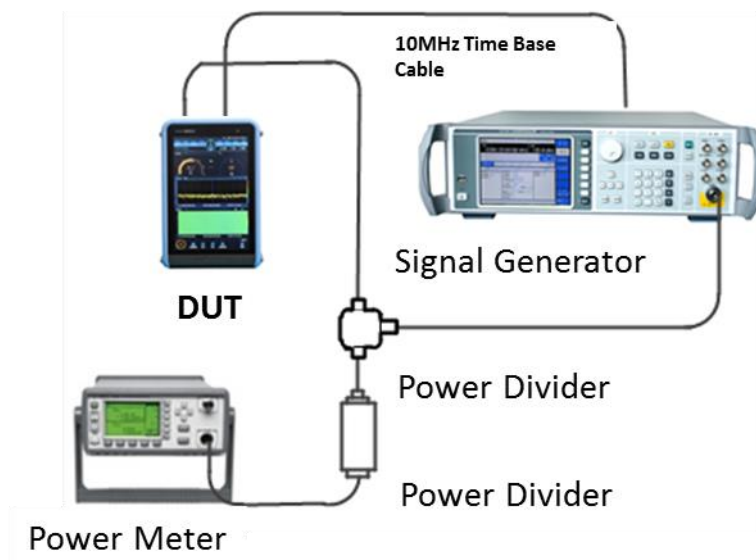

Fig. 8.17 Schematic diagram of the magnitude measurement accuracy test
1) Connect the test instrument as shown in Fig. 8.17, synthesize the signal generator and the common time base of the device to be tested. The signal output of the synthesized signal generator is input to the device to be measured and the power meter respectively after power division.